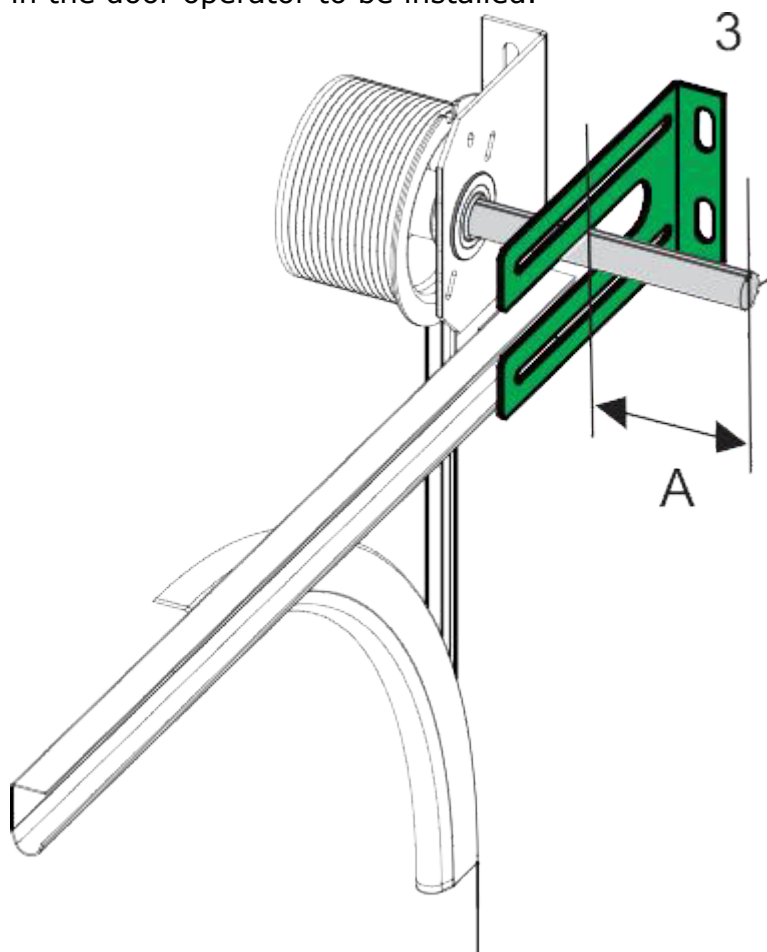

Fig 1
3. Install the torque bracket (3) as in Fig 1 with suitable fasteners for the wall type.